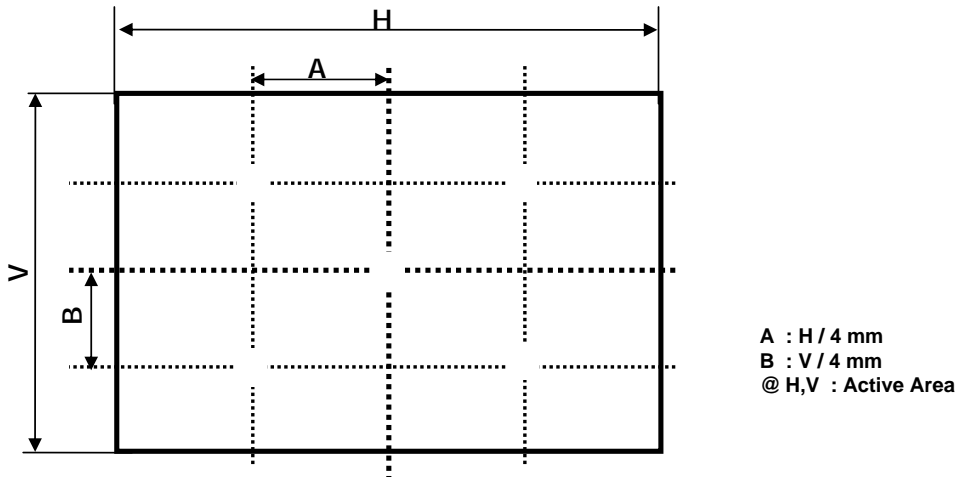

FIG. 3 5 Points for Luminance Measure
2. Surface luminance are determined after the unit has been 'ON' and 1Hour after lighting the backlight in a dark environment at $25 \pm 2^\circ\text{C}$. Surface luminance is the luminance value at center 1-point across the LCD surface 50cm from the surface with all pixels displaying white. For more information see the FIG. 3.
For more information, see the FIG. 3.